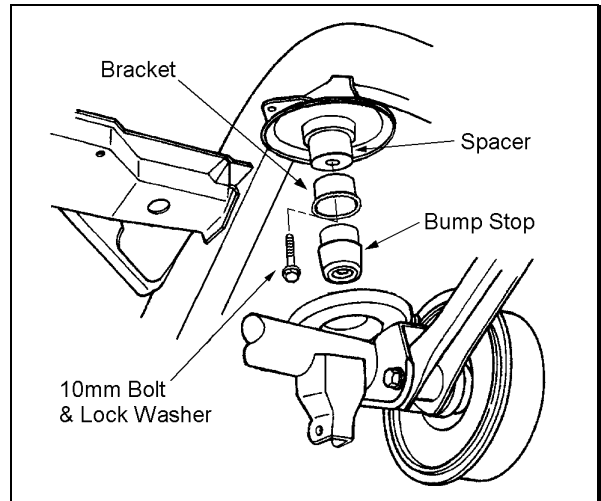

Figure 10
2. Insert a Rancho spacer from kit 8567 and reinstall the bracket with the 10mm hardware from kit 860073. See figure 10.